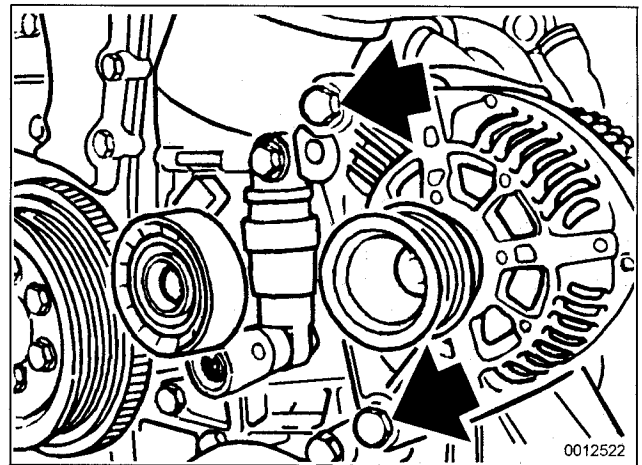

Fig. 4. Alternator mounting bolts (arrows).
6. Remove upper and lower mounting bolts and lift out alternator. See Fig. 4.